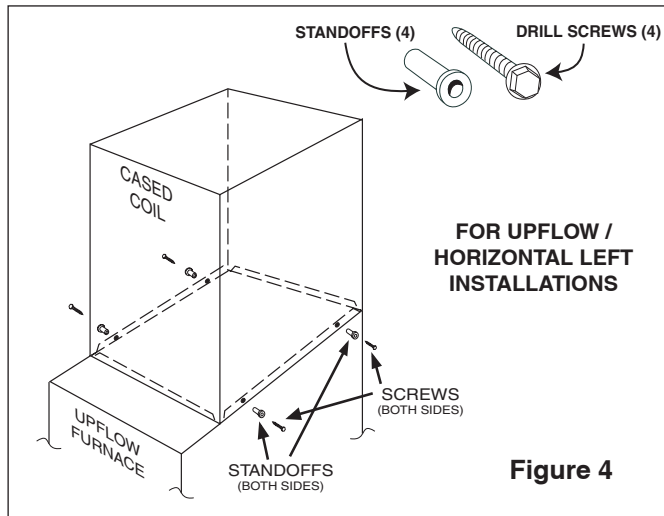

Figure 4
- c. Secure the coil case to the furnace using factory provided standoffs and screws. See Figure 4. Seal for air leaks as required.
Standoffs and screws (See Figure 4) are included with the cased coils for attachment to the furnace. There are clearance alignment holes near the bottom of the coil wrapper. Drill screws are used to engage the top flanges of the furnace. The standoff is inserted into the cabinet alignment hole (See Figure 4). The drill screws are inserted through the standoffs then screwed into the furnace top flange. The coil is always placed downstream of the furnace airflow. The coil and furnace must be fully supported when used in the horizontal position. The standoffs and screws are strictly for securing alignment, not for support in horizontal.